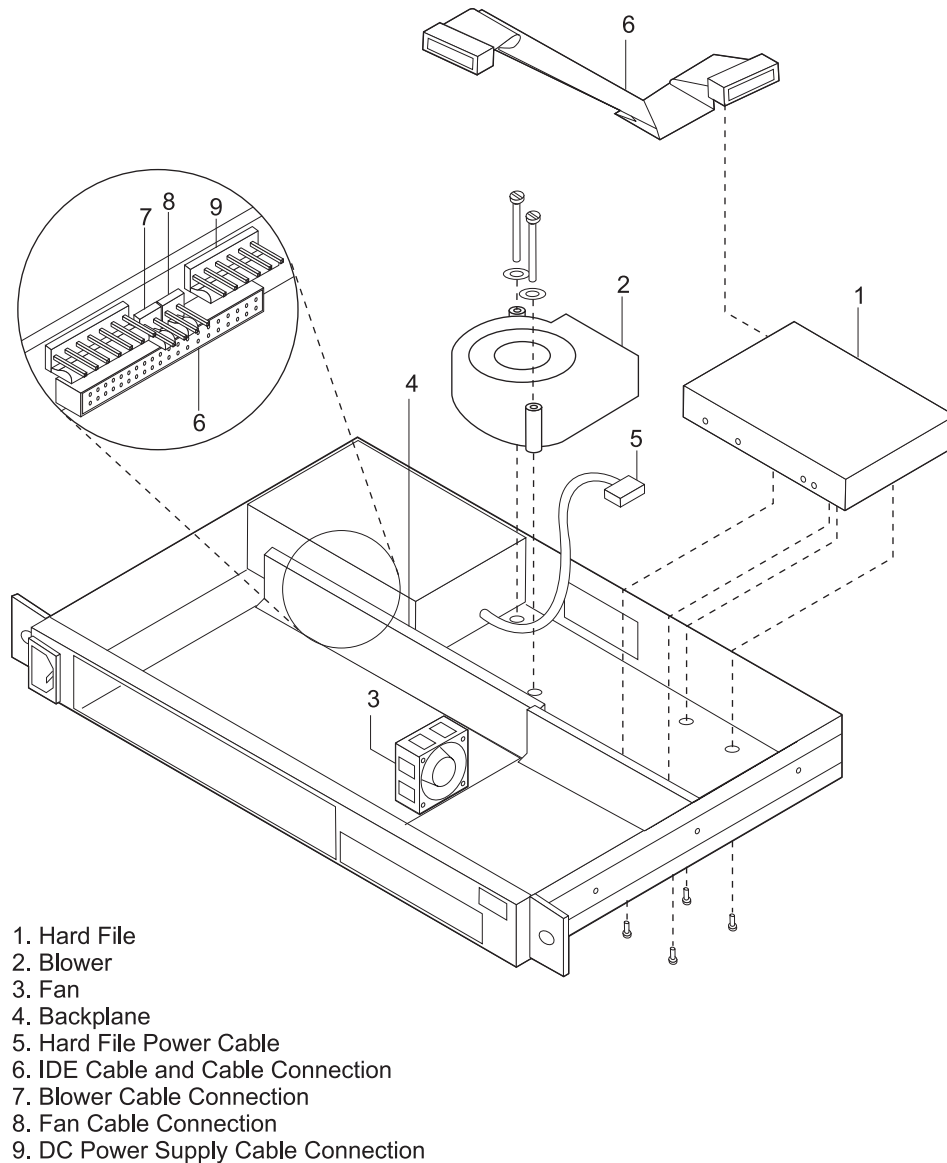

Figure 2-16. Model 1xx Chassis with a Hard Drive
8. Connect the new hard drive to the IDE (ribbon) cable and the dc power cable. Route the cables as shown in Figure 2-16 on page 2-31.